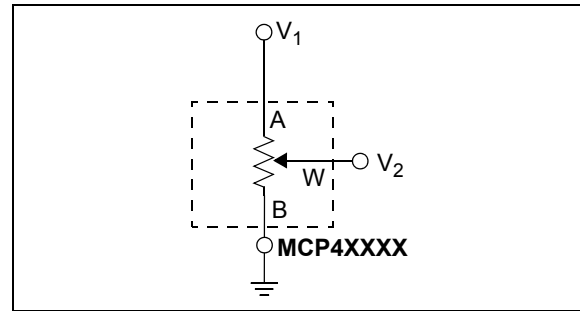

FIGURE 4-3: Three terminal or voltage divider mode.
In the potentiometer mode, all three terminals of the device are tied to different nodes in the circuit. This allows the potentiometer to output a voltage proportional to the input voltage. This mode is sometimes called voltage divider mode. The potentiometer is used to provide a variable voltage by adjusting the wiper position between the two endpoints as shown in Figure 4-3. Note that reversing the polarity of the A and B terminals will not affect operation.
In order for these circuits to work properly, care must be taken in a few areas. For linear operation, the analog input and output signals must be in the range of V_{SS} to V_{DD} for the potentiometer and input and output rails of the op-amp. The circuit in Figure 4-4 requires a virtual ground or reference input to the non-inverting input of the amplifier. Refer to Application Note 682, "Using Single-Supply Operational Amplifiers in Embedded Systems" (DS00682), for more details. At power-up or reset (RS), the resistance is set to mid-scale, with R_A and R_B matching. Based on the transfer function for the circuit, the gain is -1 V/V. As the code is increased and the wiper moves towards the A terminal, the gain increases. Conversely, when the wiper is moved towards the B terminal, the gain decreases. Figure 4-6 shows this relationship. Notice the pseudo-logarithmic gain around decimal code 128. As the wiper approaches either terminal, the step size in the gain calculation increases dramatically. Due to the mismatched ratio of R_A and R_B at the extreme high and low codes, small increments in wiper position can dramatically affect the gain. As shown in Figure 4-3, recommended gains lie between 0.1 and 10 V/V.